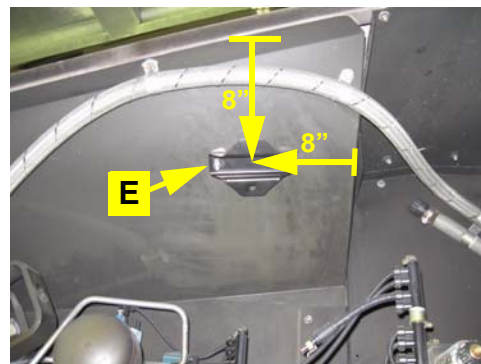

Figure 2b: Mounted bracket
- b. Mount the bracket **E** as shown using the hardware **F** (Figure 2b).